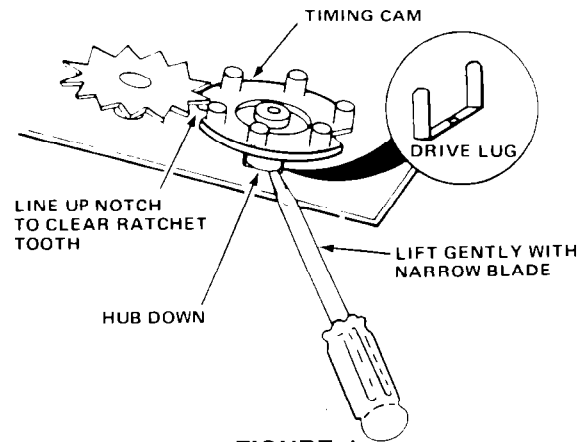

FIGURE 1
- a. Rotate cam by hand until "V" notch lines up underneath the ratchet tooth. (See Figure 1)